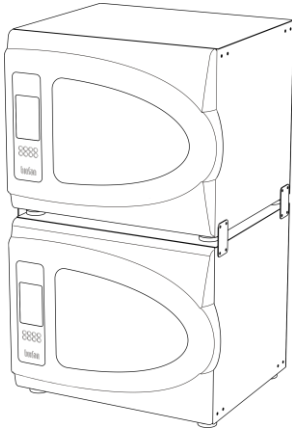

Figure 2. Stacking two units
- 5.4. **Stacking two units** (figure 2).